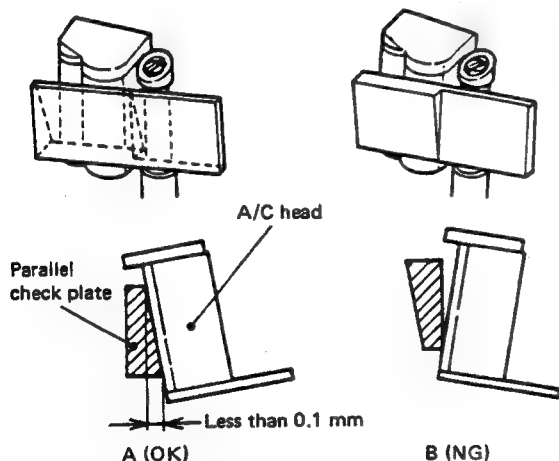

Fig. 2-31 A/C head parallel
2. As shown in Fig. 2-31, gently contact the A/C head with the parallel check plate. Confirm that inclination such as shown by A is within 0.1 mm.